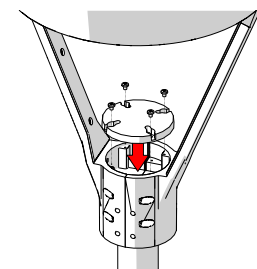

Figure 4
5. Reinstall the wiring cover [Figure 4].